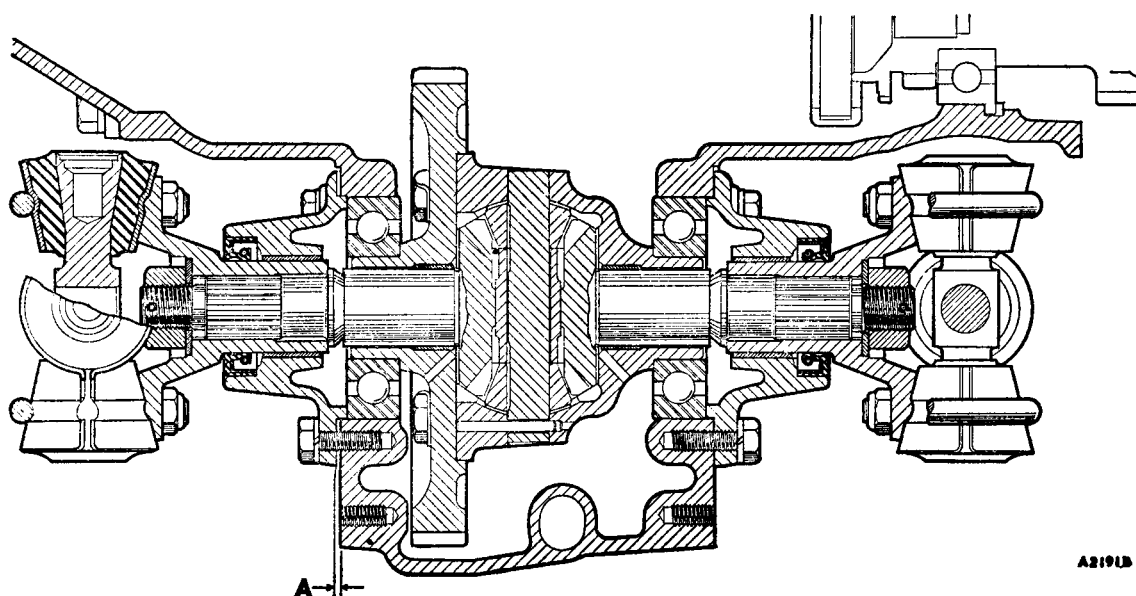

Fig. F.8
Fit the left-hand final drive cover, without its joint washer, the compressed thickness of which is .007 in. (.18 mm.). Tighten the set screws sufficiently for the cover register to nip the bearing outer race; overtightening will distort the cover flange. The required preload on the bearings is .001 to .002 in. (.025 to .05 mm.), hence the gap between the cover flange and the differential housing and transmission casing must be between .008 to .009 in. (.2 to .23 mm.). Measure this gap ('A' in Fig. F.8) with feeler gauges, and correct it as necessary by fitting shims between the bearing and the register on the cover. For example if the gap as measured is .005 in. (.13 mm.) a shim of .003 in. (.076 mm.) is required. Measure the gap in several places: any deviations will indicate that the end cover set screws have not been tightened evenly.
**NOTE.**—Later assemblies are fitted with increased thrust capacity bearings, which must be fitted with the identification word 'THRUST' facing the outside, towards the end cover. Since the pre-load is increased to .004 in. (.1 mm.), adjust the gap 'A' (see Fig. F.8) with shims until it is .011 in. (.28 mm.) before the joint washer is fitted.
13. Refit the driving flanges, making reference to item 4. The torque tightening figure is given in 'GENERAL DATA'.